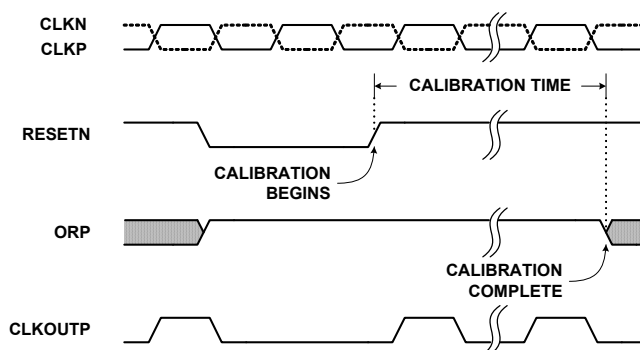

FIGURE 24. CALIBRATION TIMING
The calibration sequence is initiated on the rising edge of RESETN, as shown in Figure 24 on page 16. The Over-Range output (OR) is set high once RESETN is pulled low and remains in that state until calibration is complete. The OR output returns to normal operation at that time, so it is important that the analog input be within the converter's full-scale range to observe the transition. If the input is in an over-range condition, the OR pin will stay high and it will not be possible to detect the end of the calibration cycle.